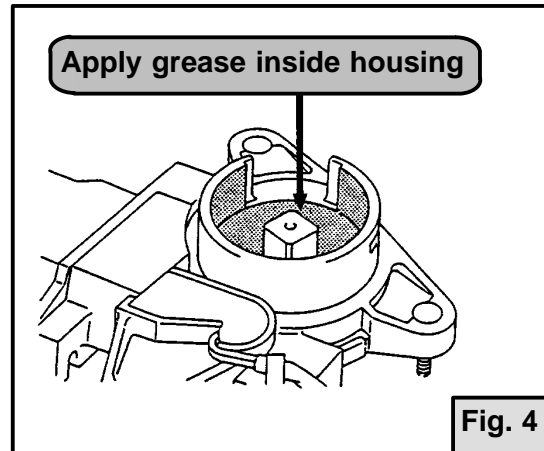

Fig. 4
- Apply grease inside the motor housing (See Fig. 4).
(See Fig. 4)